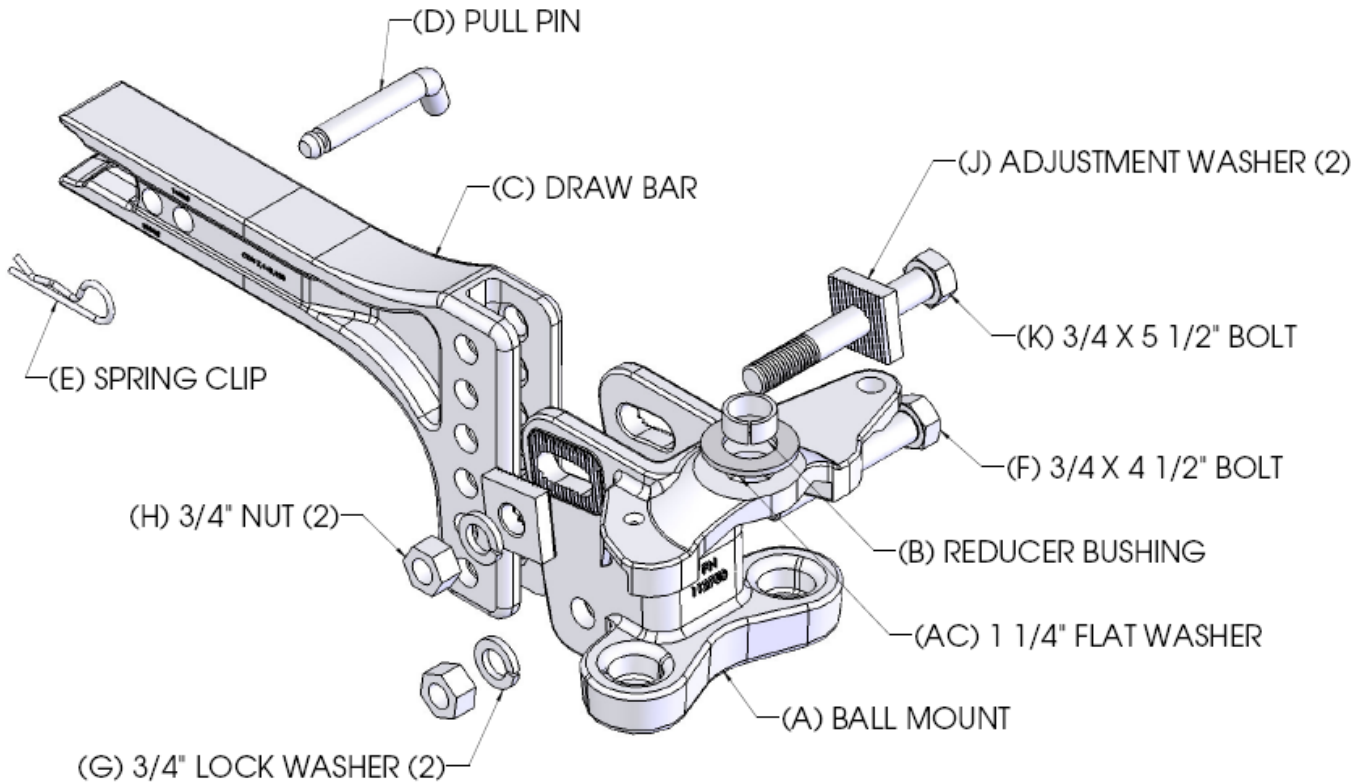

Fig. 1
- Attach hitch ball to the ball mount (A) shown in Fig. 1. Standard height hitch balls with 1-1/4" shanks are typically supplied with lock washers and nuts. If a 1" shank ball is used, use reducer bushing (B) to reduce hole size in the ball mount to 1". If using an 1-1/4" shank ball on 600 or 800 lb kits, the supplied 1-1/4" flat washer (AC) may be used between the ball and the ball mount to space the ball upward slightly to prevent trunnion interference during a sharp turn. Always use a lock washer and place the washer between the nut and ball mount. Unless otherwise specified by the ball manufacturer, torque ball nut to 450 ft*lbs for 1-1/4" nuts and 250 ft*lbs for 1" nuts.
- Weight distribution kits are sold with and without draw bar (C). Some installations may require a longer draw bar. Extended bumper guards, pickup truck caps, or rear mounted spare tires can limit turn angles unless a longer draw bar is used. Individual draw bars are available in various sizes for length and height.
- Install 3/4 x 4-1/2" bolt (F) in the lower hole of the ball mount as shown in Fig 1. Install the 3/4" lock washer (G) and snug the 3/4" nut (H).
- Install 3/4 x 5-1/2" bolt (K) with two adjustment washers (J) as shown in Fig 1. Install lock washer and nut. Align the washers as shown and hand tighten nut. Recheck the "Y" dimension and torque both 3/4" nuts to 300 ft*lbs. If a large enough torque wrench is not available, torque nuts to 150 ft*lbs then tighten the nuts an additional 1/4 turn. Do not lubricate the threads.